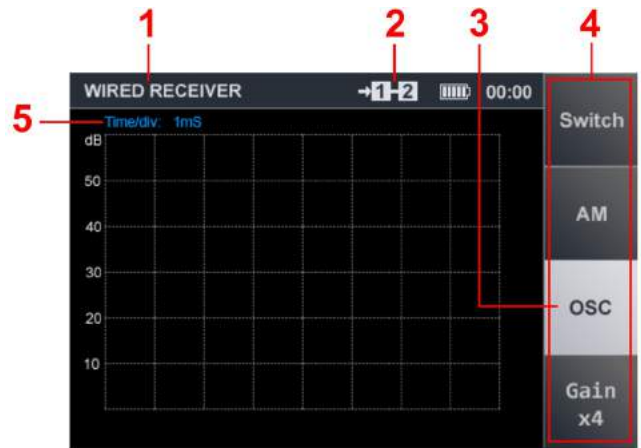

Fig.31
The display appearance in the "OSCILLOSCOPE" mode is shown in Fig. 31, where the numbers signify:
- ◀▶ - horizontal scaling (with time scale value displayed: 5, Fig.31)